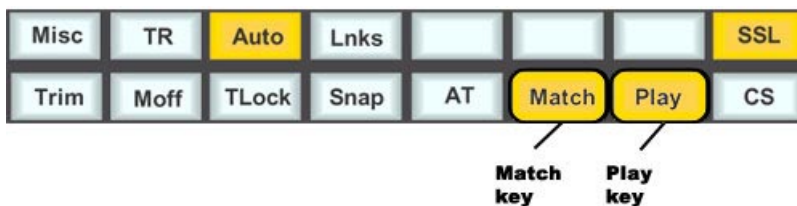
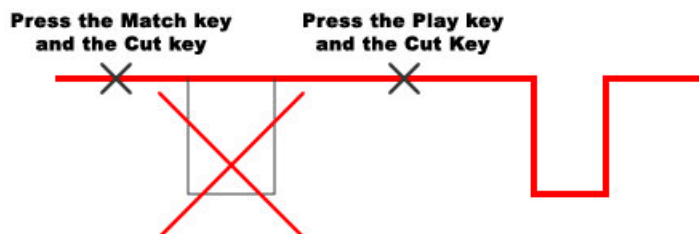

Figure 34 -Match and Play
Figure 35 -Match and Play changes
* Before the first cut press the Match soft key (see figure 34) followed by the cut key. This will put it into write, deleting the cut.
*When the cut is over, press the Play soft key (see figure 34) followed by the cut key. This will put it into replay and will carry on as it was (see figure 35).